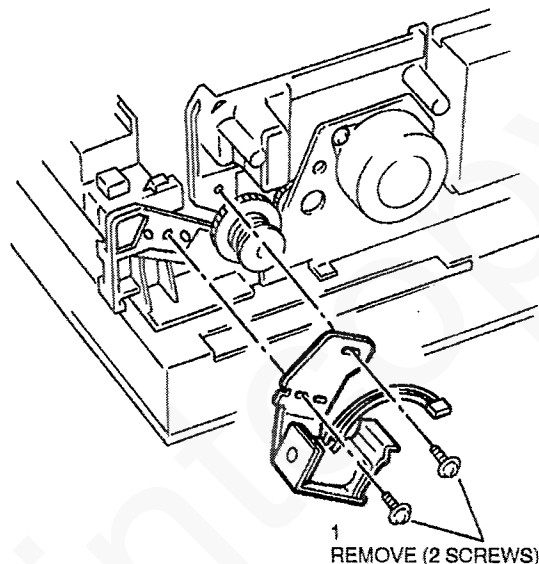

Figure 1. Cassette feed solenoid removal
2. (Figure 1) Remove the cassette feed solenoid.